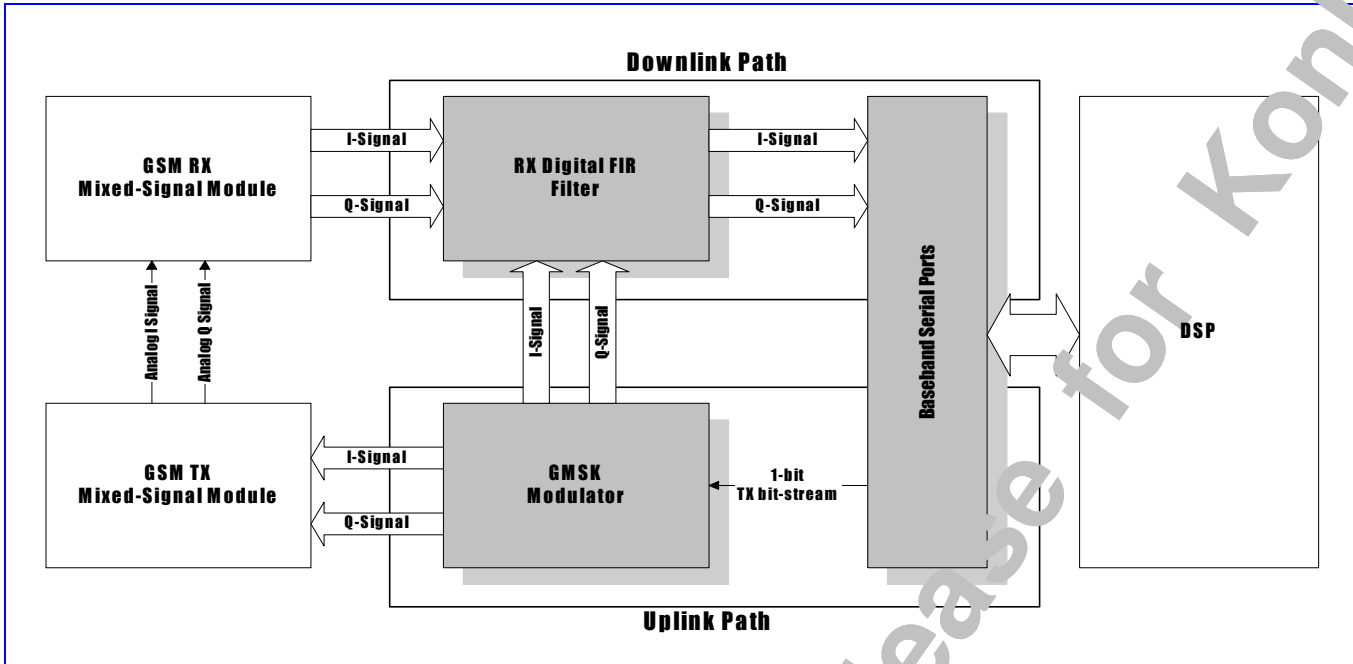

Figure 56 Block Diagram Of Baseband Front End
Baseband Front End is a modem interface between TX/RX mixed-signal modules and digital signal processor (DSP). We can divide this block into two parts (see **Figure 56**). The first is the uplink (transmitting) path, which converts bit-stream from DSP into digital in-phase (I) and quadrature (Q) signals for TX mixed-signal module. The second part is the downlink (receiving) path, which receives digital in-phase (I) and quadrature (Q) signals from RX mixed-signal module, performs FIR filtering and then sends results to DSP. **Figure 56** illustrates interconnection around Baseband Front End. In the figure the shadowed blocks compose Baseband Front End. The uplink path is mainly composed of GMSK Modulator and uplink parts of Baseband Serial Ports, and the downlink path is mainly composed of RX digital FIR filter and downlink parts of Baseband Serial Ports. Baseband Serial Ports is a serial interface used to communicate with DSP. In addition, there is a set of control registers in Baseband Front End that is intended for control of TX/RX mixed-signal modules, inclusive of calibration of DC offset and gain mismatch of downlink analog-to-digital (A/D) converters as well as uplink digital-to-analog (D/A) converters in TX/RX mixed-signal modules. The timing of bit streaming through Baseband Front End is completely under control of TDMA timer. Usually only either of uplink and downlink paths is active at one moment. However, both of the uplink and downlink paths will be active simultaneously when Baseband Front End is in loopback mode.